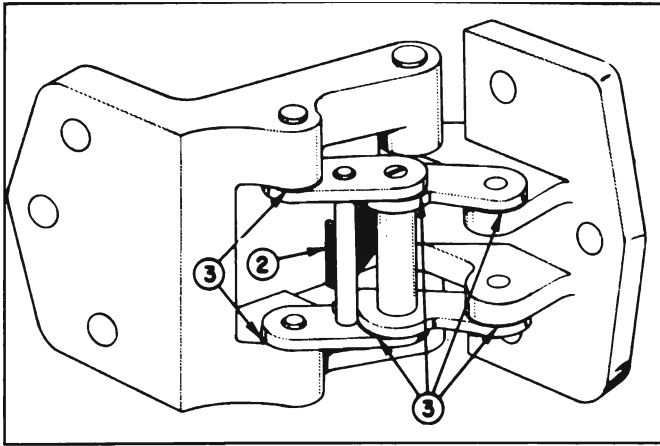

Figure 13-145—Lubrication of Rear Door Hinge and Hold-Open Assembly—Series 40-60
Wipe off dirt and apply one (1) or two (2) drops of Lubriplate to areas indicated by arrows at "1" in figure 13-145. Wipe off excess lubricant.